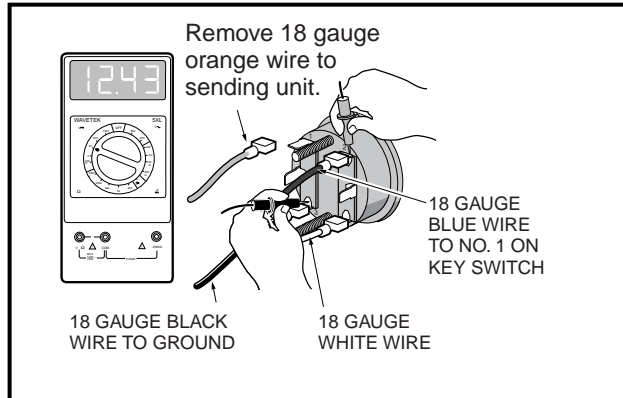

Figure 11-45 Fuel Gauge Test
- Set a multimeter to 20 volts DC and place the red (+) probe of the multimeter on the (2) terminal of the fuel/hour gauge with the blue wire. Place the black (-) probe on the (3) terminal of the fuel/hour gauge with the black wire (**Figure 11-45, Page 11-41**).
- Turn the key switch ON. The voltage reading should be the same as the battery voltage reading recorded earlier. If not, check the continuity of the blue and black wires (**Figure 11-45, Page 11-41**).